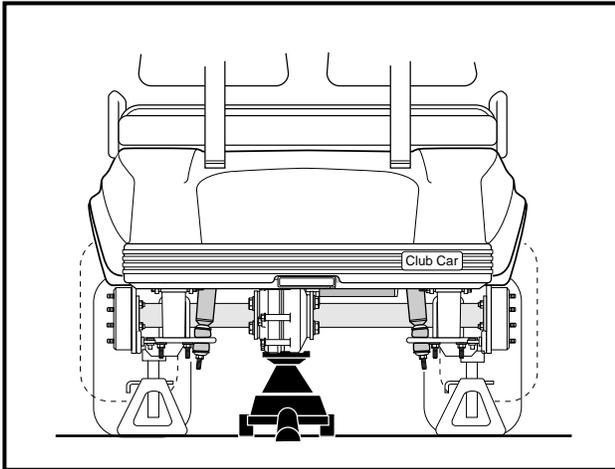
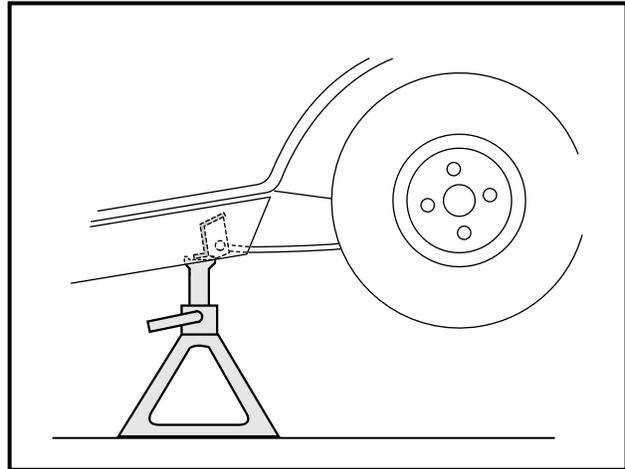

Figure 15-3 Lift Vehicle with Floor Jack
Figure 15-4 Support Vehicle on Jackstands
4. Place floor jack under transaxle and raise rear of vehicle (**Figure 15-3, Page 15-4**) then place jackstands under frame cross-member between spring mount and side stringer, just forward of each rear wheel. Lower the vehicle to let the jackstands support the vehicle (**Figure 15-4, Page 15-4**). **See following WARNING.**